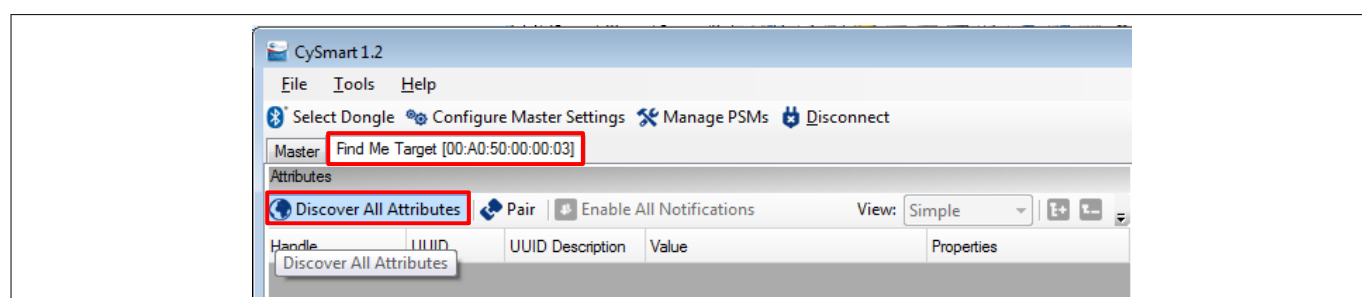

Figure 59 CySmart attribute discovery
- Once connected, switch to the **Find Me Target** device tab and discover all the attributes on your design from the CySmart Host Emulation Tool, as shown in Figure 59